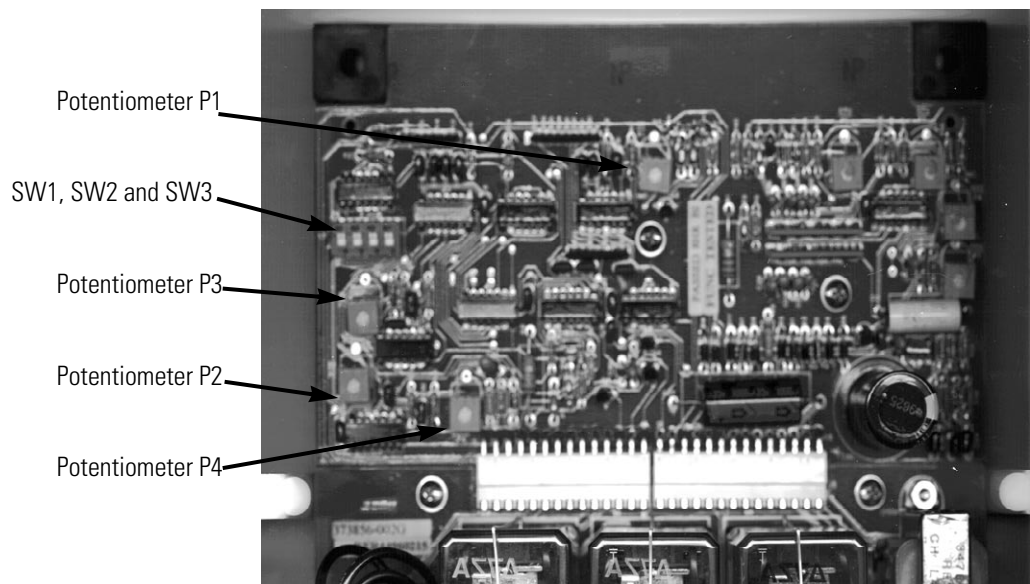

Figure 18: Adjustment potentiometer and DIP switch locations
2. Locate P4 using Figure 18 : *Adjustment potentiometer and DIP switch locations* on page 21.
2. Locate SW2 using Figure 18 : *Adjustment potentiometer and DIP switch locations* on page 21.
4. Locate P2 using Figure 18 : *Adjustment potentiometer and DIP switch locations* on page 21.
2. Locate SW1 using Figure 18 : *Adjustment potentiometer and DIP switch locations* on page 21.
4. If SW1 is down, locate P2 using Figure 18 : *Adjustment potentiometer and DIP switch locations* on page 21.
2. Locate SW3 using Figure 18 : *Adjustment potentiometer and DIP switch locations* on page 21.
4. Locate P3 using Figure 18 : *Adjustment potentiometer and DIP switch locations* on page 21.